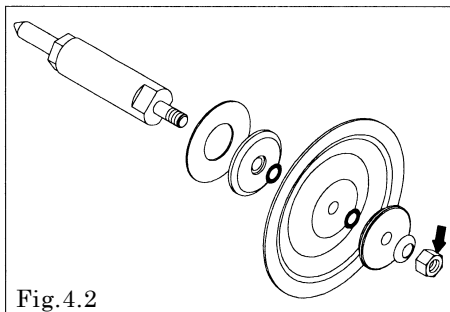

Fig.4.2
- Pull out the diaphragm, center disk and center rod from the main body. [Fig. 4.2]
- Remove the nut, and remove the center disk, diaphragm and O ring (□T type, 10□C, 10□N) from the center rod. [Fig. 4.2]